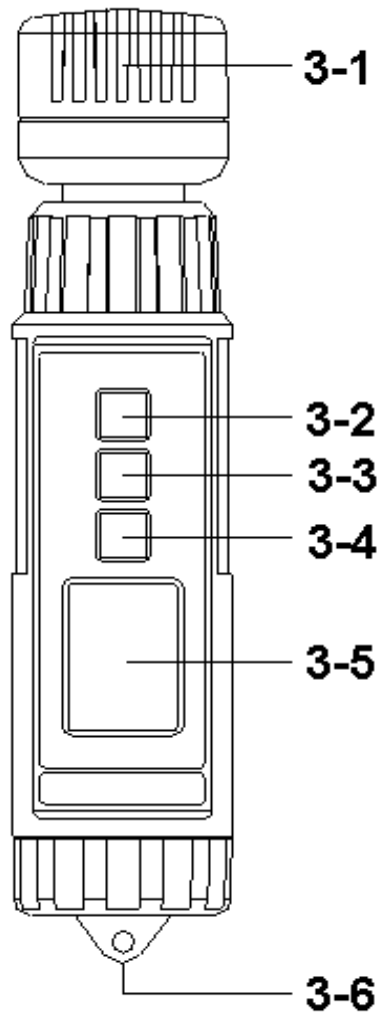

Fig. 1
- 1) Power on the meter by pressing the " Power Button " ( 3-2, Fig. 1 ) once,
- 2) Locate the " Oxygen/Temp. Sensor " ( 3-1, Fig. 1 ) to the position that intend to make the measurement. The upper Display ( 3-5, Fig. 1) will show the O2 ( Air oxygen ) value in the unit of " %O2 ". The lower Display ( 3-5, Fig. 1) will show the Temperature ( Air Temp. ) value in the unit of " °C " or " °F ".
**Power off the meter, press the " REC Button " ( 3-4, Fig. 1 ) continuously then power on the meter ( press the " Power Button " once ), the O2 buzzer warning function will be disable.**
- 1) During the measurement, press the " Hold Button " ( 3-3, Fig. 1 ) momentarily to hold the measured value. The LCD will show a " HOLD " symbol.
- 1) The Data Record function can memorize the maximum and minimum readings. Press the " REC Button " ( 3-4, Fig. 1 ) once to start the Data Record function and there will be a " REC " symbol on the display.
- a) Press the " REC Button " ( 3-4, Fig. 1 ) once, the " REC MAX " symbol along with the maximum value will appear on the display.
*\* If intend to delete the maximum value, just press the " Hold Button " ( 3-3, Fig. 1 ) once, then the display will show the " REC " symbol only & execute the memory function continuously.*
- b) Press the " REC Button " ( 3-4, Fig. 1 ) again, the " REC MIN " symbol along with the minimum value will appear on the display.
*\* If intend to delete the minimum value, just press the " Hold Button " ( 3-3, Fig. 1 ) once, then the display will show the " REC " symbol only & execute the memory function continuously.*
- 2) Press the " Hold Button " ( 3-3, Fig. 1 ) continuously, use another finger power ON the meter ( press the " Power Button " once ), until the Temp. unit ( °C or °F ) is presented on the Display then release the " Hold Button ", the Temp. unit will change From °C to °F ( or °F to °C ) with default.
- 3) Use the two fingers to press both the " Hold Button " ( 3-3, Fig. 1 ) and the " REC Button " ( 3-4, Fig. 1 ) at the same time. Until the upper Display show the text " CAL " ( the lower Display will show the value 20.9 ), release the two fingers from the buttons, the text " CAL " will flashing within several seconds, then the Display will return to normal screen and show O2 value to " 20.9 ± 0.1 %O2 " and finish the calibration procedures.
- 3) To change the batteries, open ( rotate clockwise direction ) the " Battery Cover " ( 3-6, Fig. 1 ).
- 4) Make sure the " Battery cover " (3-6, Fig 1) is secured after changing the batteries.